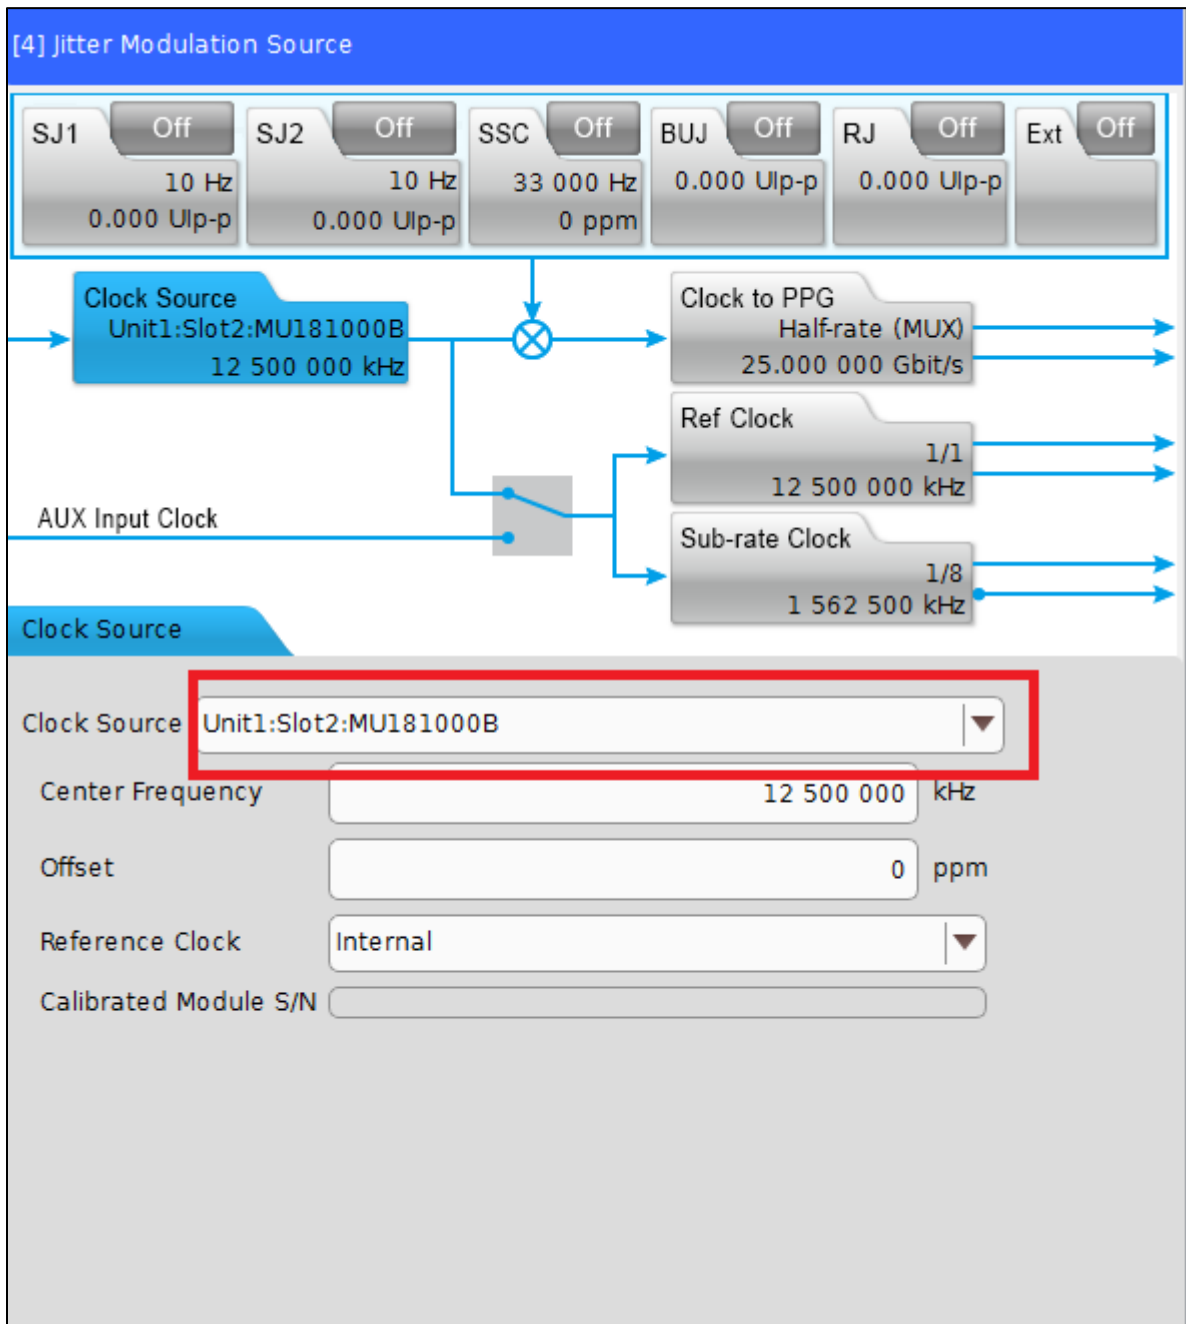

FIGURE 61. JITTER CLOCK SOURCE SETTING
- h) Go to Jitter Modulation Source tab and turn off SJ1, SJ2, SSC, BUJ, RJ and Ext. See Figure 61.
- b) Go to Jitter tab and set Clock Source to “Unit1:Slot2:MU181000B”. See Figure 61.